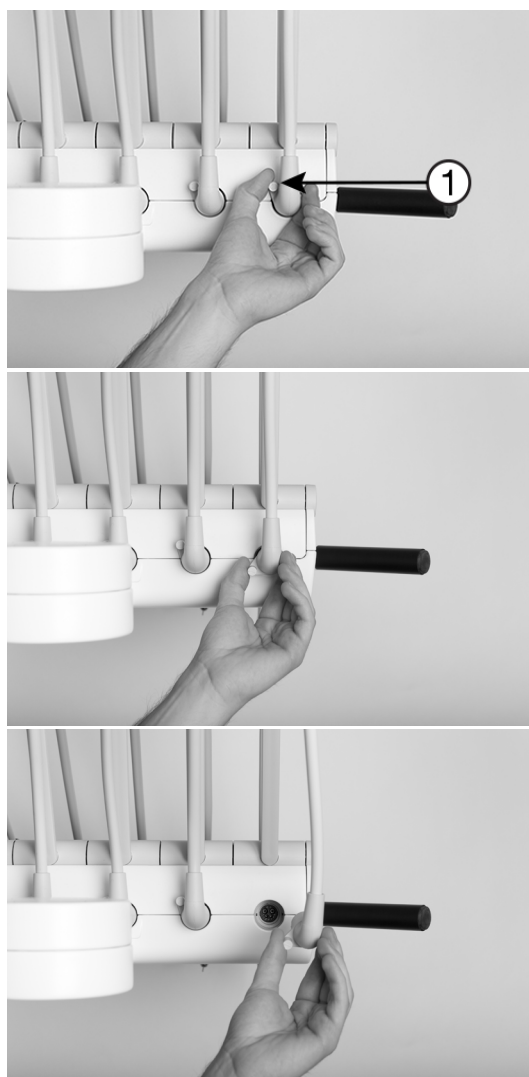

Figure 46 – Removing instrument hose, (1) release handle
Remove the instrument hose by turning the release handle (1) counter-clockwise and pulling out the plug as shown in Figure 46.